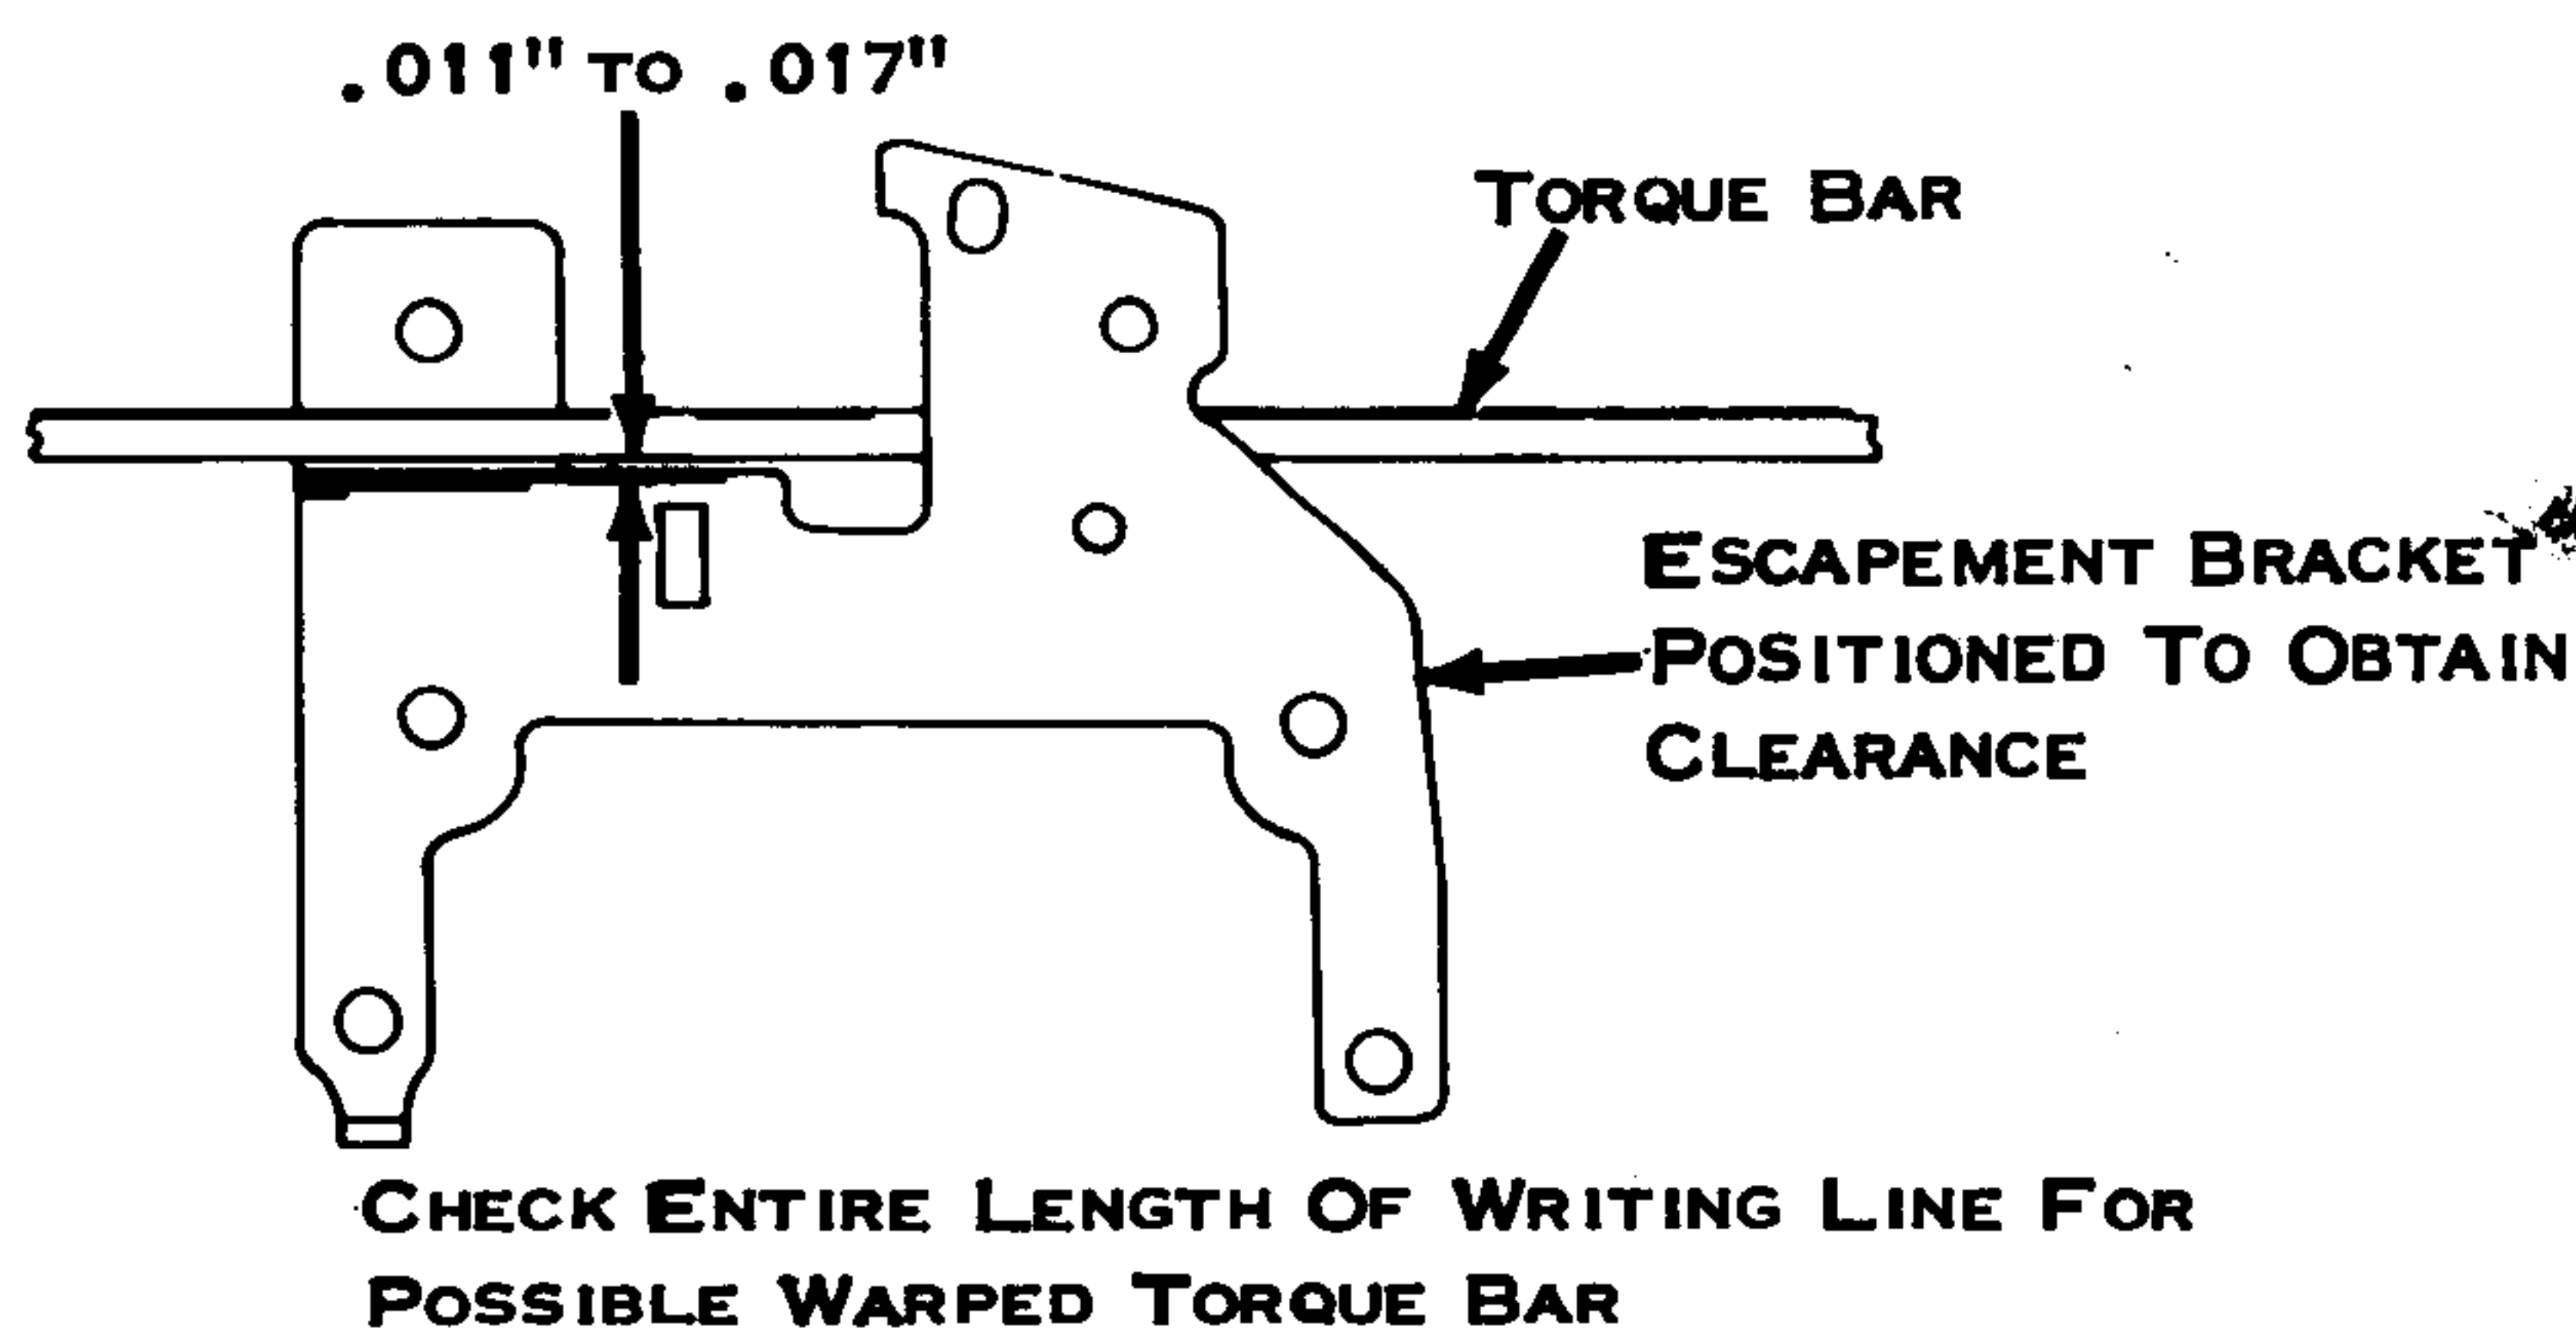

Figure 145. Escapement Bracket
1. Escapement Bracket (Fig. 145) - Adjust front to rear so that .011" to .017" clearance exists between the escapement bracket and the tab torque bar.